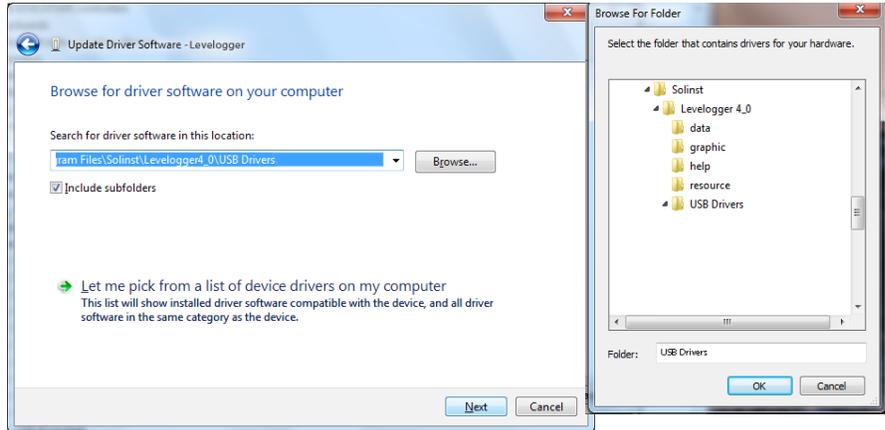

Figure 5-13 Browse for Driver Software
- 5) Click the Browse button and point the navigation window to the provided USB drivers located within the Leveloader4_0 folder (See Figure 5-13). Default destination is: